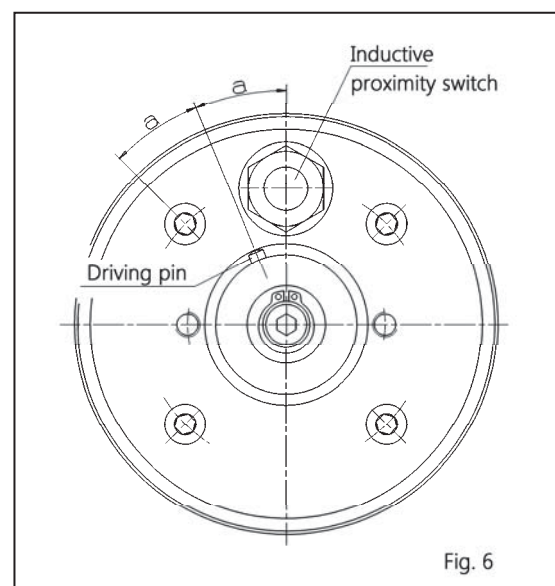

Fig. 6
- Turn the threaded pin (3) which controls symmetrical gap adjustment back until the brake pads can be easily replaced.
- Assemble the gate sleeve again. To first turn the driving pin with the freewheel outer ring clockwise turn until it is in the angular position is (see Fig. 6).